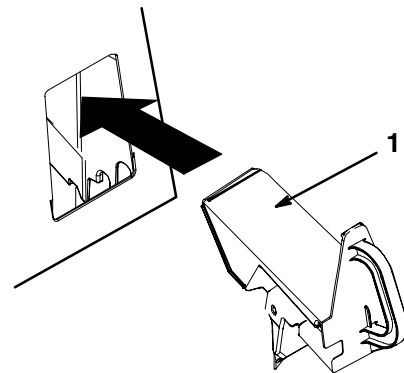

Figure 16
4. Insert the recycler plug into the opening as shown in Figure 16.